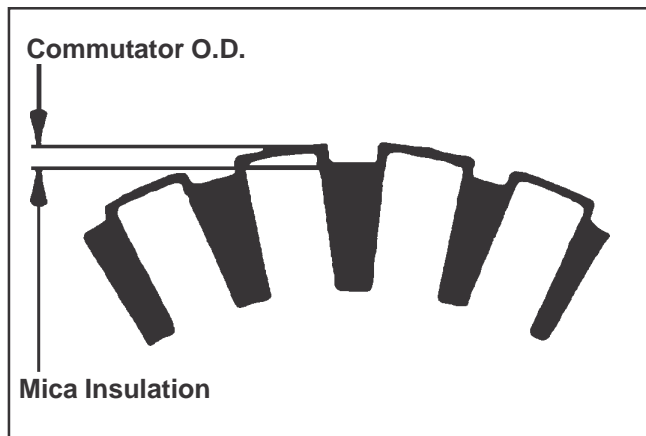

Figure 8-25. Commutator Mica Inspection.
- Clean and inspect the commutator (outer surface). The mica insulation of the commutator must be lower than the O.D. surface (undercut) to ensure proper operation of the commutator. See Figure 8-25.